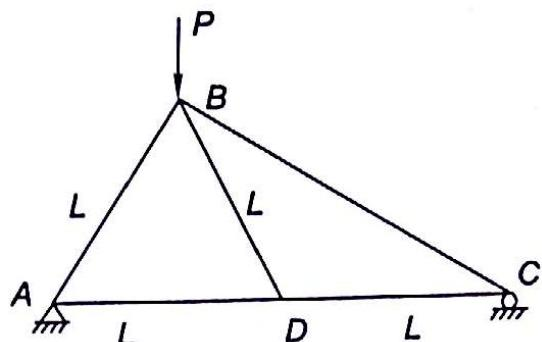

Fig. 4.30
4.1 A truss ABCD, is loaded by a vertical load P at joint B as shown in Fig. 4.30. Length of members $AB = BD = AD = DC = L$, what is the tensile force in member AD ?